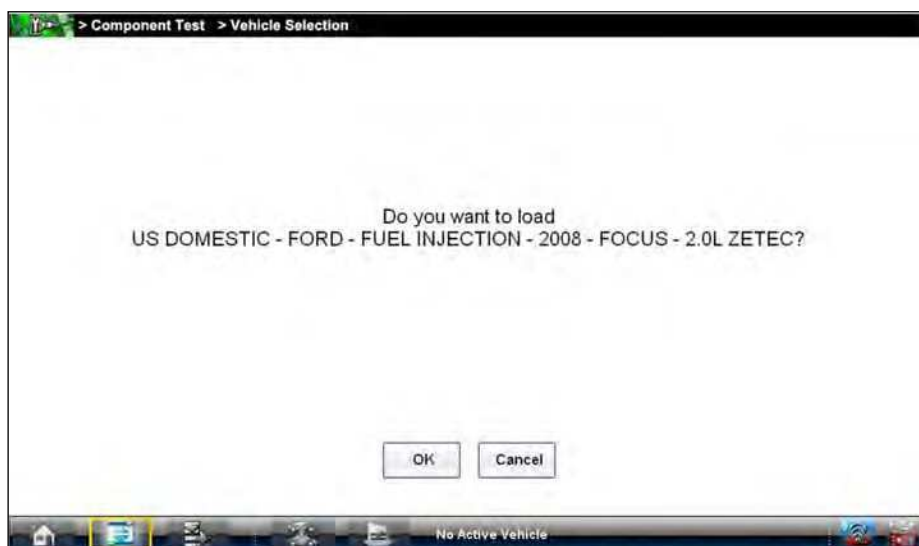

Figure 7-4 Sample confirmation dialog box
7. Select **2.0L ZETEC** from the engine list and a confirmation dialog box displays (Figure 7-4).